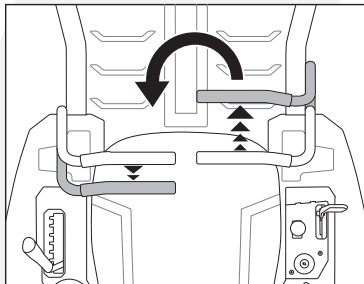

Fig. 19B
3. To turn counter-clockwise, move the right drive control lever forward while simultaneously moving the left drive control lever rearward. (Fig. 19B)